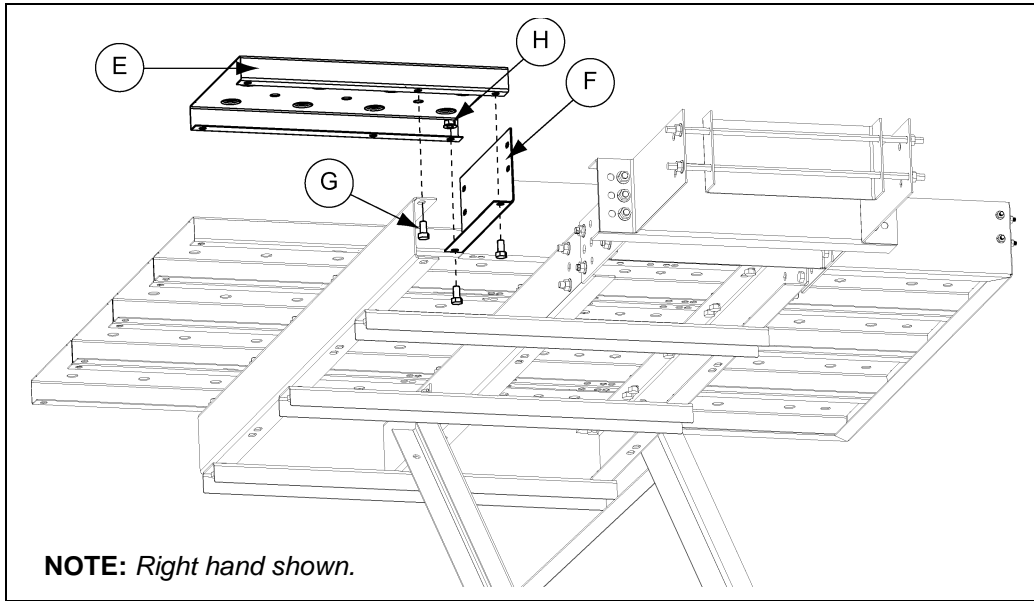

Figure 10I
4. Align flange of end toe board along the bottom of decking. Connect end toe board to decking using 1/2" x 1" bolts and nuts. *(See Figure 10I on Page 80.)*